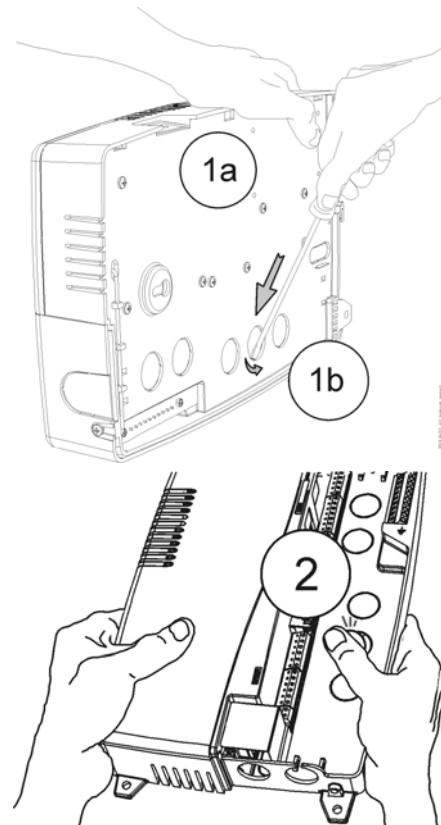

Figure 7: Remove Chassis Knockouts
1. Hold the supervisory controller with its knockout side on a flat work surface (see 1a in Figure 7).
2. From the back, wedge a straight-blade screwdriver into the knockout edge and pry open the knockout (see 1b in Figure 7).
3. Remove the right-side cover (see Removing and Replacing the Covers on page 5). Press up each opened knockout with your finger and thumb (see 2 in Figure 7), then twist and remove.